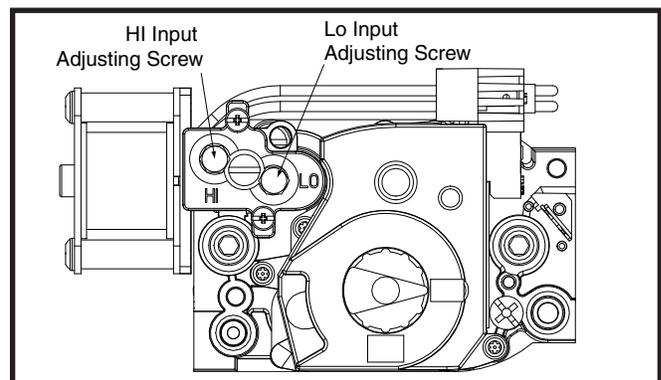

Figure 19. HI & LO Input Adjusting Screws
- c.) Using an Allen wrench, turn the the LO Input Adjusting Screw on the LO side of the regulator to adjust the reduced input setting or turn the HI Input Adjusting Screw (Figure 19) on the side of the regulator to adjust the full input setting.